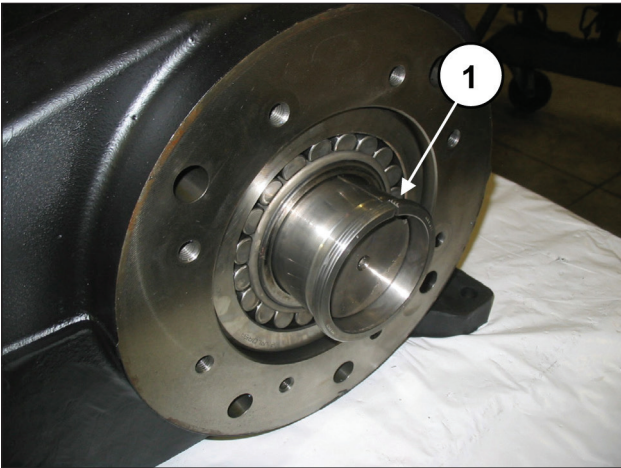

Fig. 45
Insert the pressure bush manually to keep the shaft aligned (pos. ①, Fig. 45).